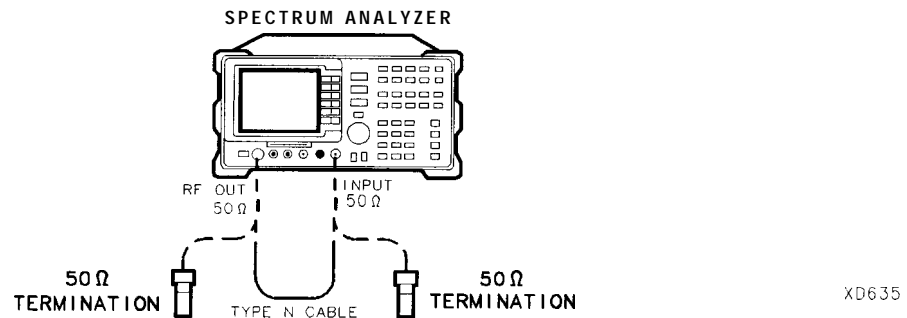

Figure 2-99. Tracking Generator Feedthrough Test Setup
1. Connect the Type N cable between the RF OUT 50  $\Omega$  and INPUT 50  $\Omega$  connectors on the spectrum analyzer. See Figure 2-99.